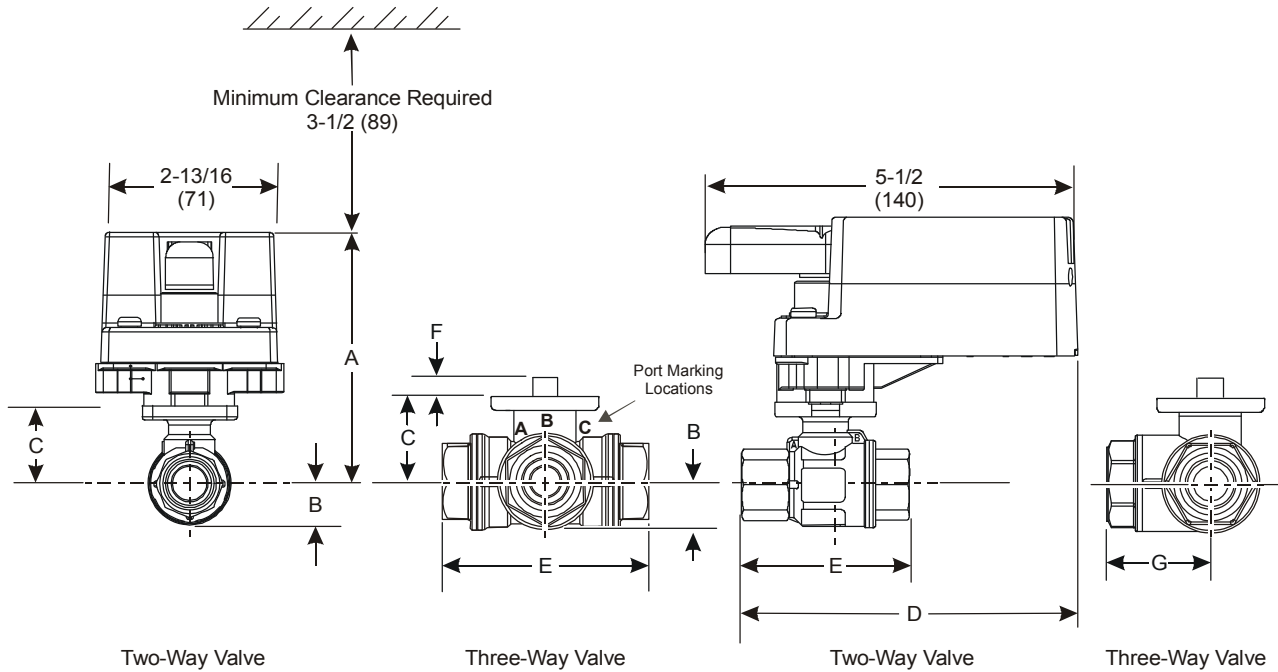

Figure 2: Non-Spring Return VA(M)24-35-P-T Series Actuated ST2 Series Ball Valve with linkage - in.(mm)
See Figure 2 for dimensions of the Non-Spring Return VA(M)24-35-P-T Series Actuated ST2 Series Ball Valve with linkage
1. Port A must always be connected to the coil (Figure 2).